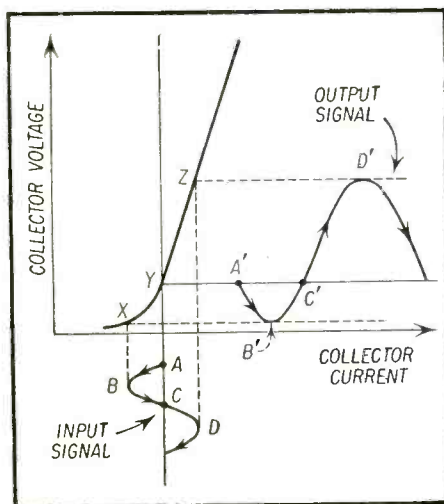

Fig. 5—Class B power detector operation. Shown above are the transfer curves.
Similar faulty action of the push buttons, Fig. 4, is attributable to corroded contacts. Always put a film of lubriplate on the contact fingers, Fig. 4, item 83, and on the pointer contact arm. In severe cases of improper operation of push buttons, it is necessary to check the slide contacts, Fig. 4, item 82. Move the gear train assembly to the 550 kc end to clear the dial pointer as much as possible from the dial scale as the scale assembly is removed. These pointers snap very easily. Place the set with the tuner on top. Remove the two end screws which hold the printed contact board, Fig. 5. Note the position of each red button indicator, Fig. 4, item 128, since they are all different and must be replaced in the same order. Carefully slide the board forward away from the tuner and let it hang to the side by its contact wires. Now the slide contacts, Fig. 4, item 82, and underpanel printed wiring, Fig. 5, can be cleaned and lubriplated. It is necessary to be cautious so that the slide contacts remain in place with their insulation and push button arms. When replacing the contact board, push it evenly back into the notch without disturbing the contact slides. Just before seating the front, the red indicators, Fig. 4, item 128, must be replaced on its edge. Each indicator must fit flush on its own contact finger or the board will not fit flush. It is always advisable when lubriplating, to include the sensitivity switch contacts.
Fig. 5—Tab rail board showing underpanel printed wiring. Slide contacts in this unit can be cleaned and lubricated. However, care must be exercised in this operation.
The Class B is capable of good detection and about 10 db of audio amplification. This same detector may be used with vacuum tubes but the transistor offers the advantages of less distortion due to the very straight line from Y to Z, Fig. 5. In fact, this detector as used with the transistor is more linear than the diode detector.